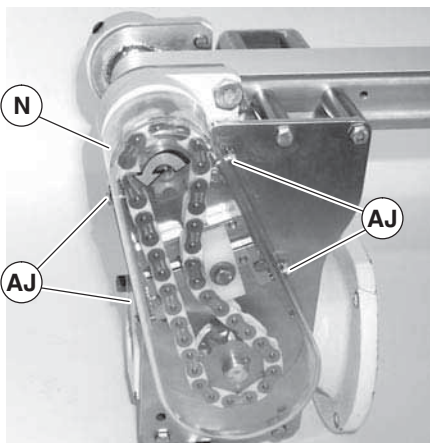

Figure 16
Do not over-tighten screws (Figure 16, item AJ).
- Install cover (Figure 16, item N) and tighten four screws (AJ) to 35 in-lb (4 Nm).